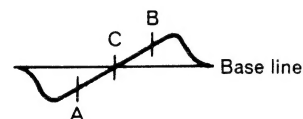

Fig. 2
2. Use the T203 core to form the S-curve shown in Figure 2. Adjust the symmetry of A and B about point C for linearity.